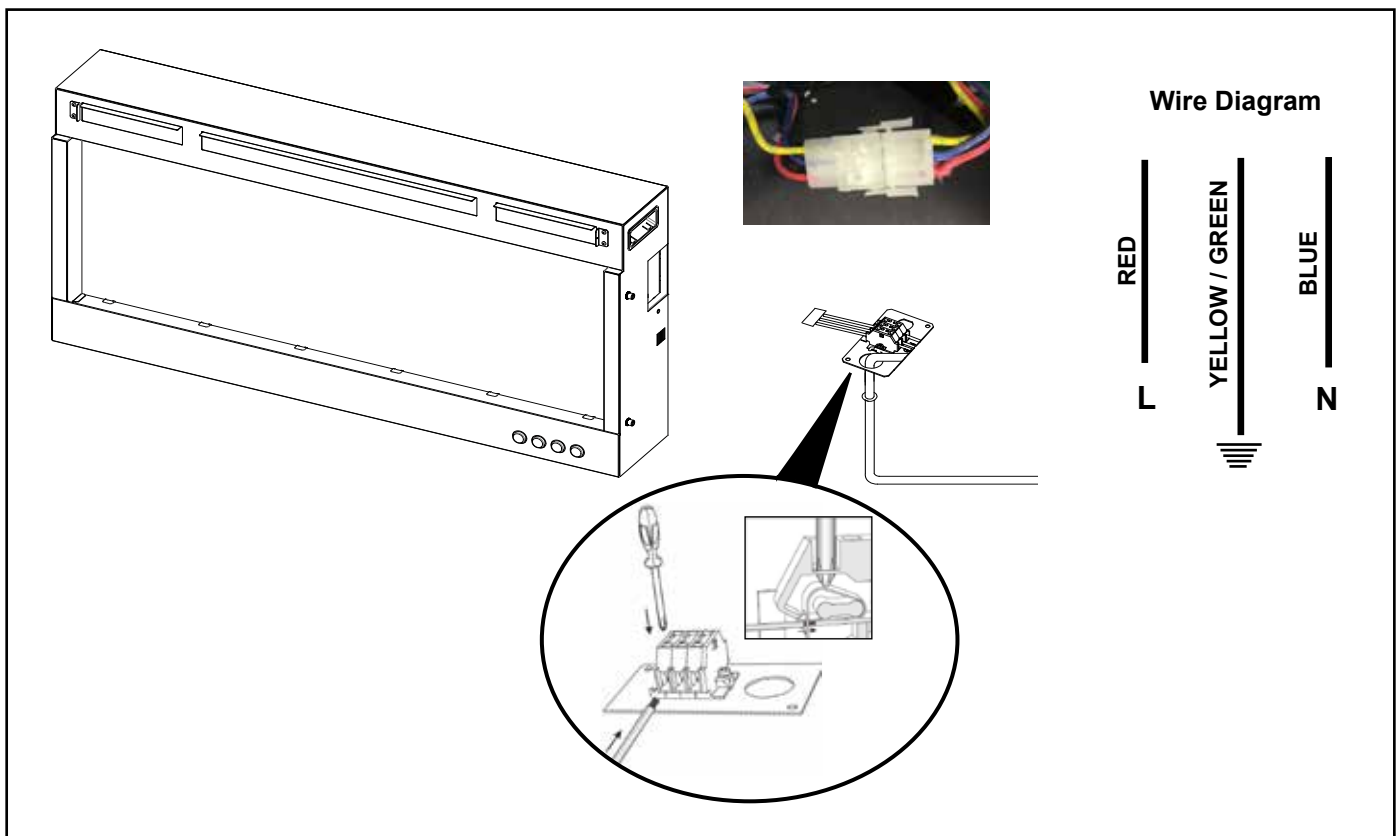

Figure 4.15 Hard-Wired Installation
3. Terminate type NM-B wire to the terminal block, ensure connections are secure, and tighten the strain relief. Use 3/32 slotted head screwdriver, or equivalent, to depress the spring loaded terminals for the conductors. See Figure 4.15.